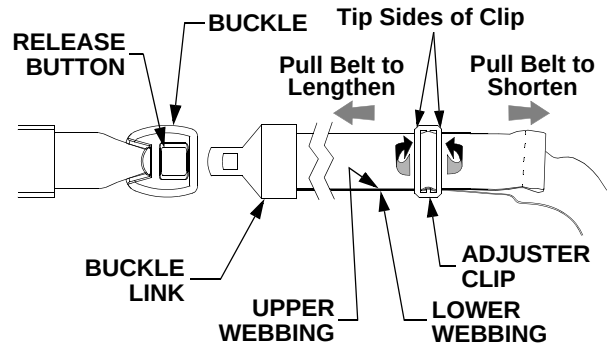

Figure 22
- To lengthen the belt, hold the ends of the adjuster clip and tip upward the side of the clip toward the buckle link. See Figure 22.
- While holding the clip, pull the upper webbing of the belt through the clip toward the buckle link. See Figure 22.